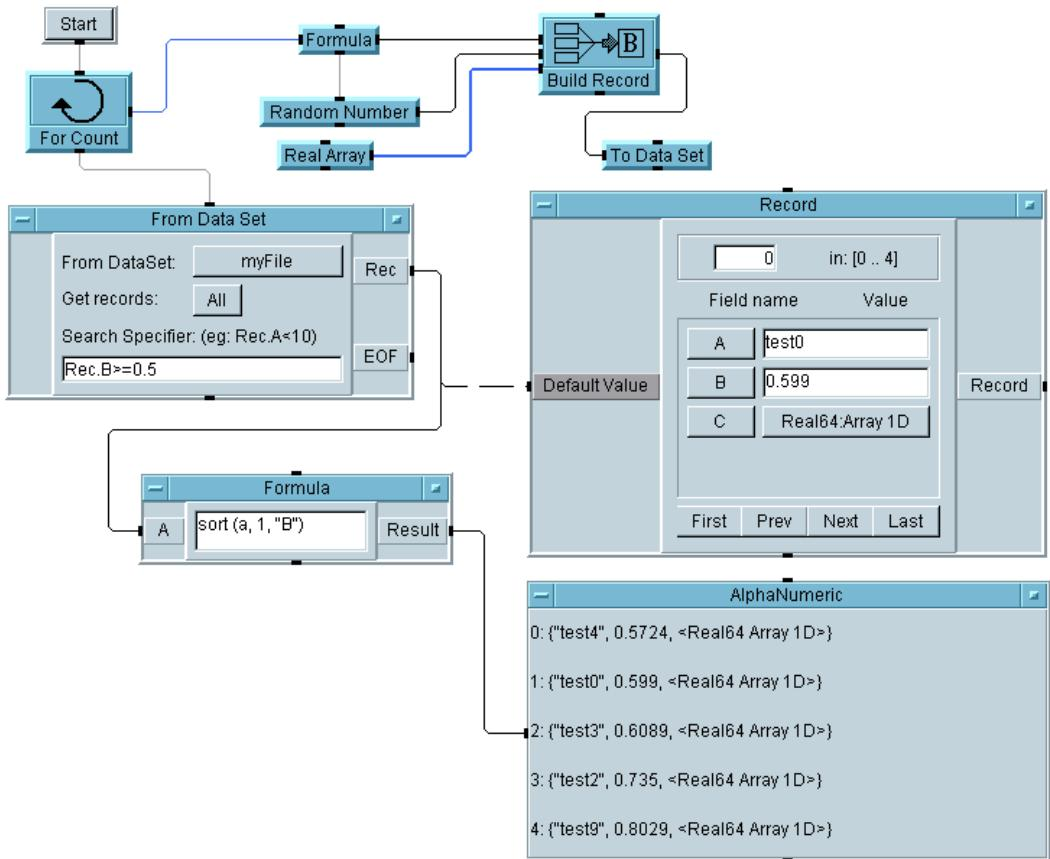

Figure 5-20. A Sort Operation on a Record Field
4. Run the program a few times. It should look similar to Figure 5-20. Notice that the program sorts all of the records returned from the DataSet file in ascending order by field B.